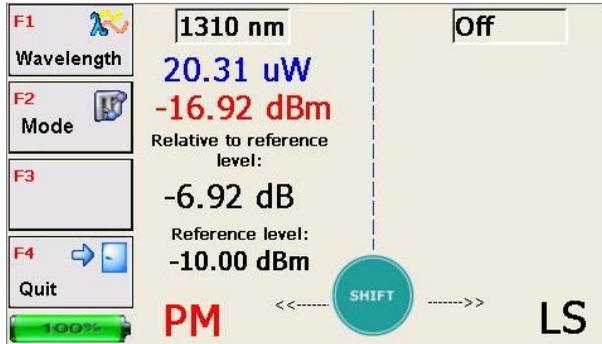

Figure 8.4
8.2.7 The basic level being chosen, the window shown in Figure 8.4 appears on the screen.
In this window, in addition to the values of the power measured, the basic level value (in dBm) and the change of the current power level with respect to the basic level (in dB) are indicated. The number -6,92 dB in Figure 8.4, in this case, means that the current optical power value is 6,92 dB **less** than the basic value – 10,00 dBm, so, the introduced attenuation in the optical line equals to 6,92 dB.